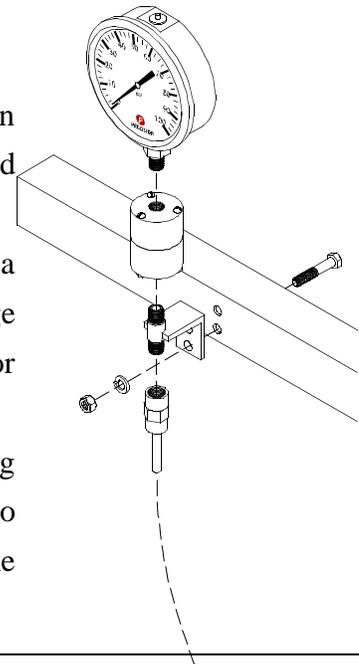

Figure 4: Pressure Gauge Mounting
2. The recommended method of mounting is to mount the gauge to a piece of metal tubing on your piece of equipment. The gauge assembly has two pre-drilled holes that can be used with 1/4" bolts for optimal stability. See Figure 4 on page 5.